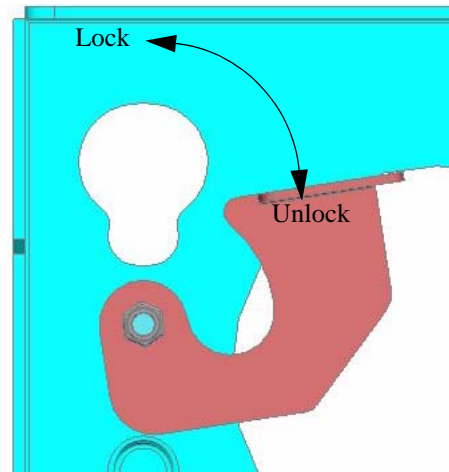

Figure 3. Locking Device
1. Make sure no power is supplied to the display and the locking device is in the unlocked (down) position (see Figure 3) before attempting to mount the display.
4. Secure the mounting bracket to the mount by completely engaging the locking device (see Figure 3).
2. Release the locking device (see Figure 3).